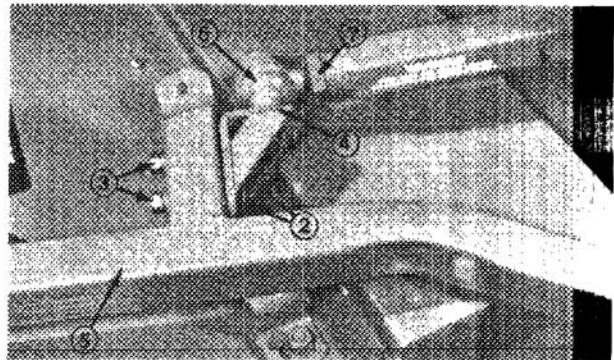

Figure 24
6. Have a helper push down on the left push arm while you remove the capscrews, flatwashers, lockwashers and nuts securing ball joint mount to mount bracket on cutting unit (Fig. 24). Now the helper can carefully allow push arm to move upward which will gradually release the 150 pounds (667 N) of spring load.